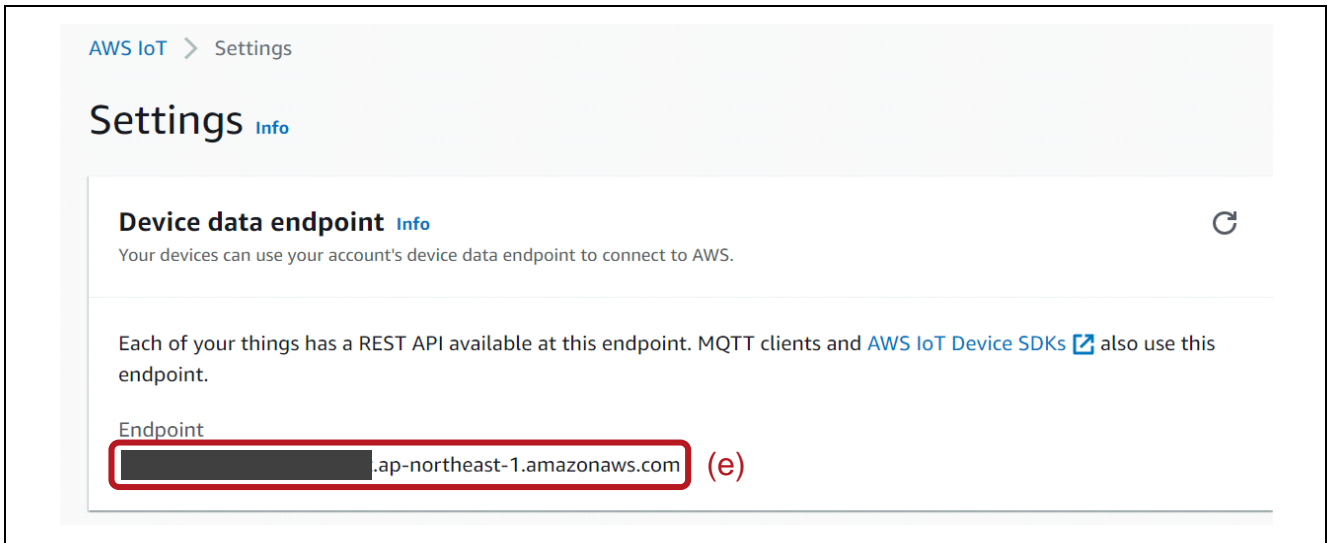

Figure 8-10 Check AWS Endpoint
- Select [Settings]. Make a note of the Endpoint. (Figure 8-10(e))
- #define clientcredentialMQTT_BROKER_ENDPOINT "Figure 8-10 (e) The Endpoint"